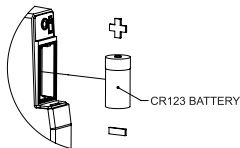

Figure 12
2. Install (1) CR123 battery (not included), positive side up, into the battery cavity (Figure 12).